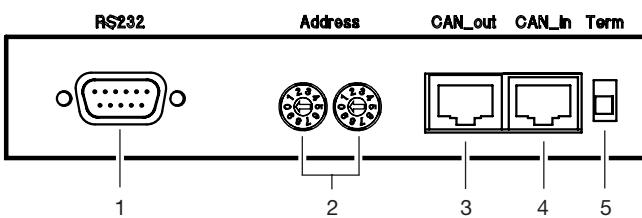

Figure 4: Connection strip of realplex module
- 2 Connection strip of realplex module (see Fig. 4)